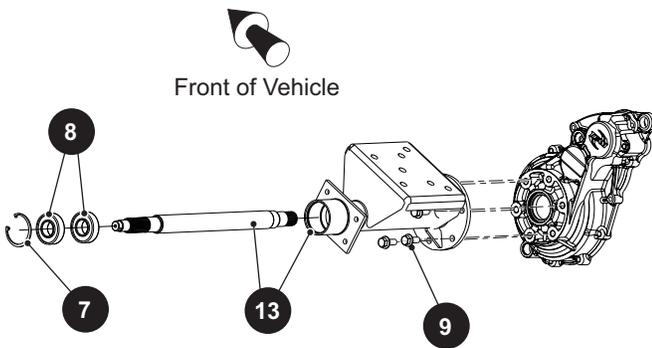

Fig. 5 Rear Axle Disassembly
1. Remove snap ring (7) from the end of the axle.
2. Remove the two ball bearings (8).
3. Remove the six bolts (9) attaching the half-shaft (13) to the rear differential (1).
4. Pull the half shaft away (13) from the differential (1) (Ref. Fig. 5).